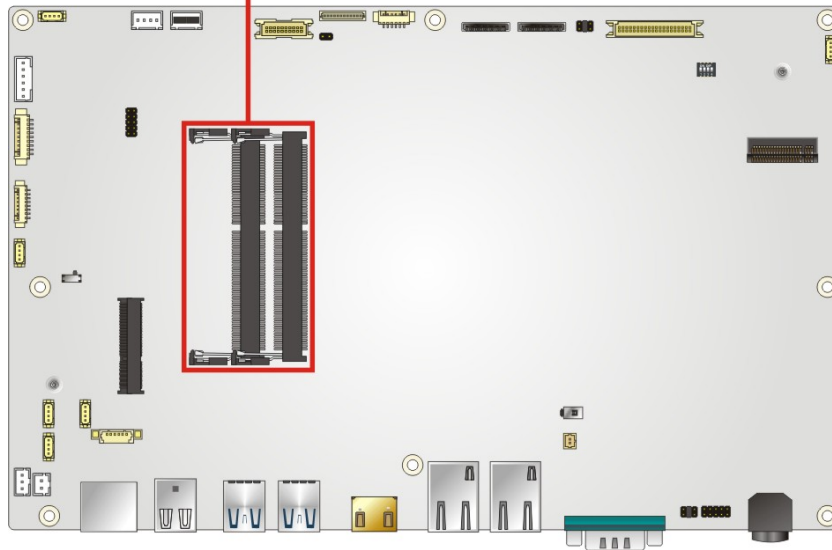

Figure 6-3: SO-DIMM Slot Locations
Step 2: Locate the SO-DIMM slots (**Figure 6-3**).